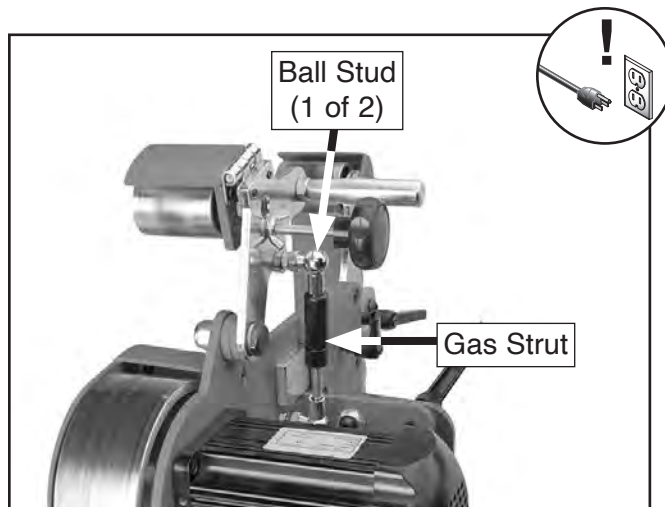

Figure 54. Location of gas strut ball studs.
5. Turn gas strut ball studs counterclockwise to remove old gas strut (see **Figure 54**).
6. Thread new gas strut ball studs into frame holes, as shown in **Figure 54**.